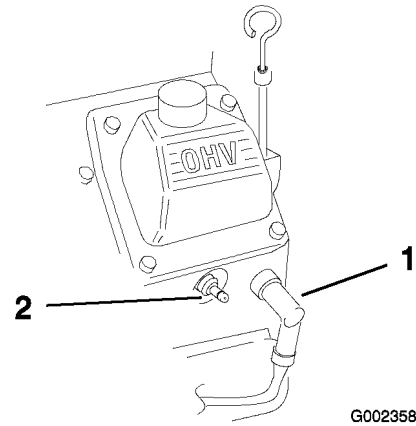

Figure 41
3. Disconnect the wires from the spark plugs (Figure 41).